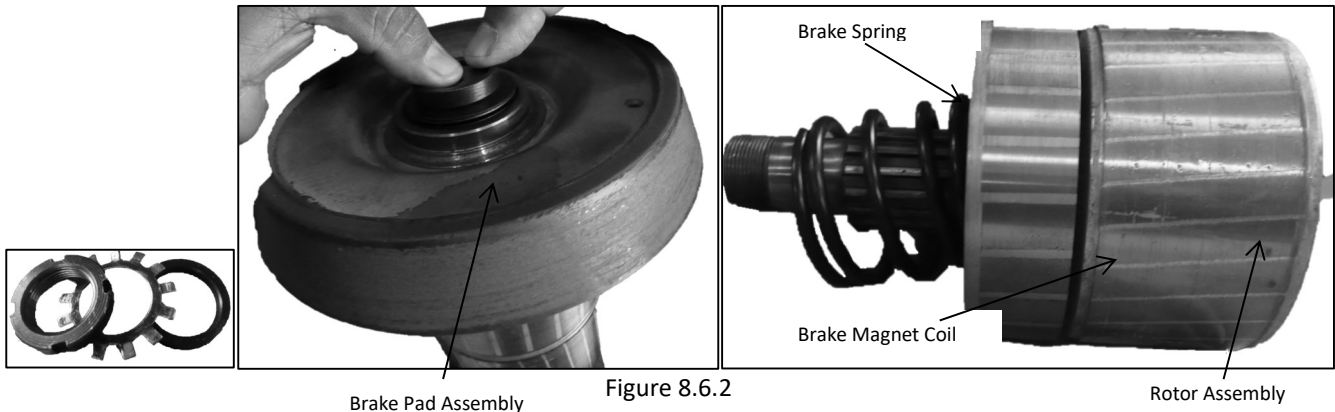

Figure 8.6.2
Instructions for replacing the load chain on the hoist are outlined below. Parting of replacement load chain must be the same as the original parting of load chain on the hoist. Refer to Figure 8.6.2 for parting arrangement of hoists and section 12.3 for Chain Assembly.
7. Release the brake pad by pushing the shaft down and removing the washer and plates (see Figure 8.6.2).